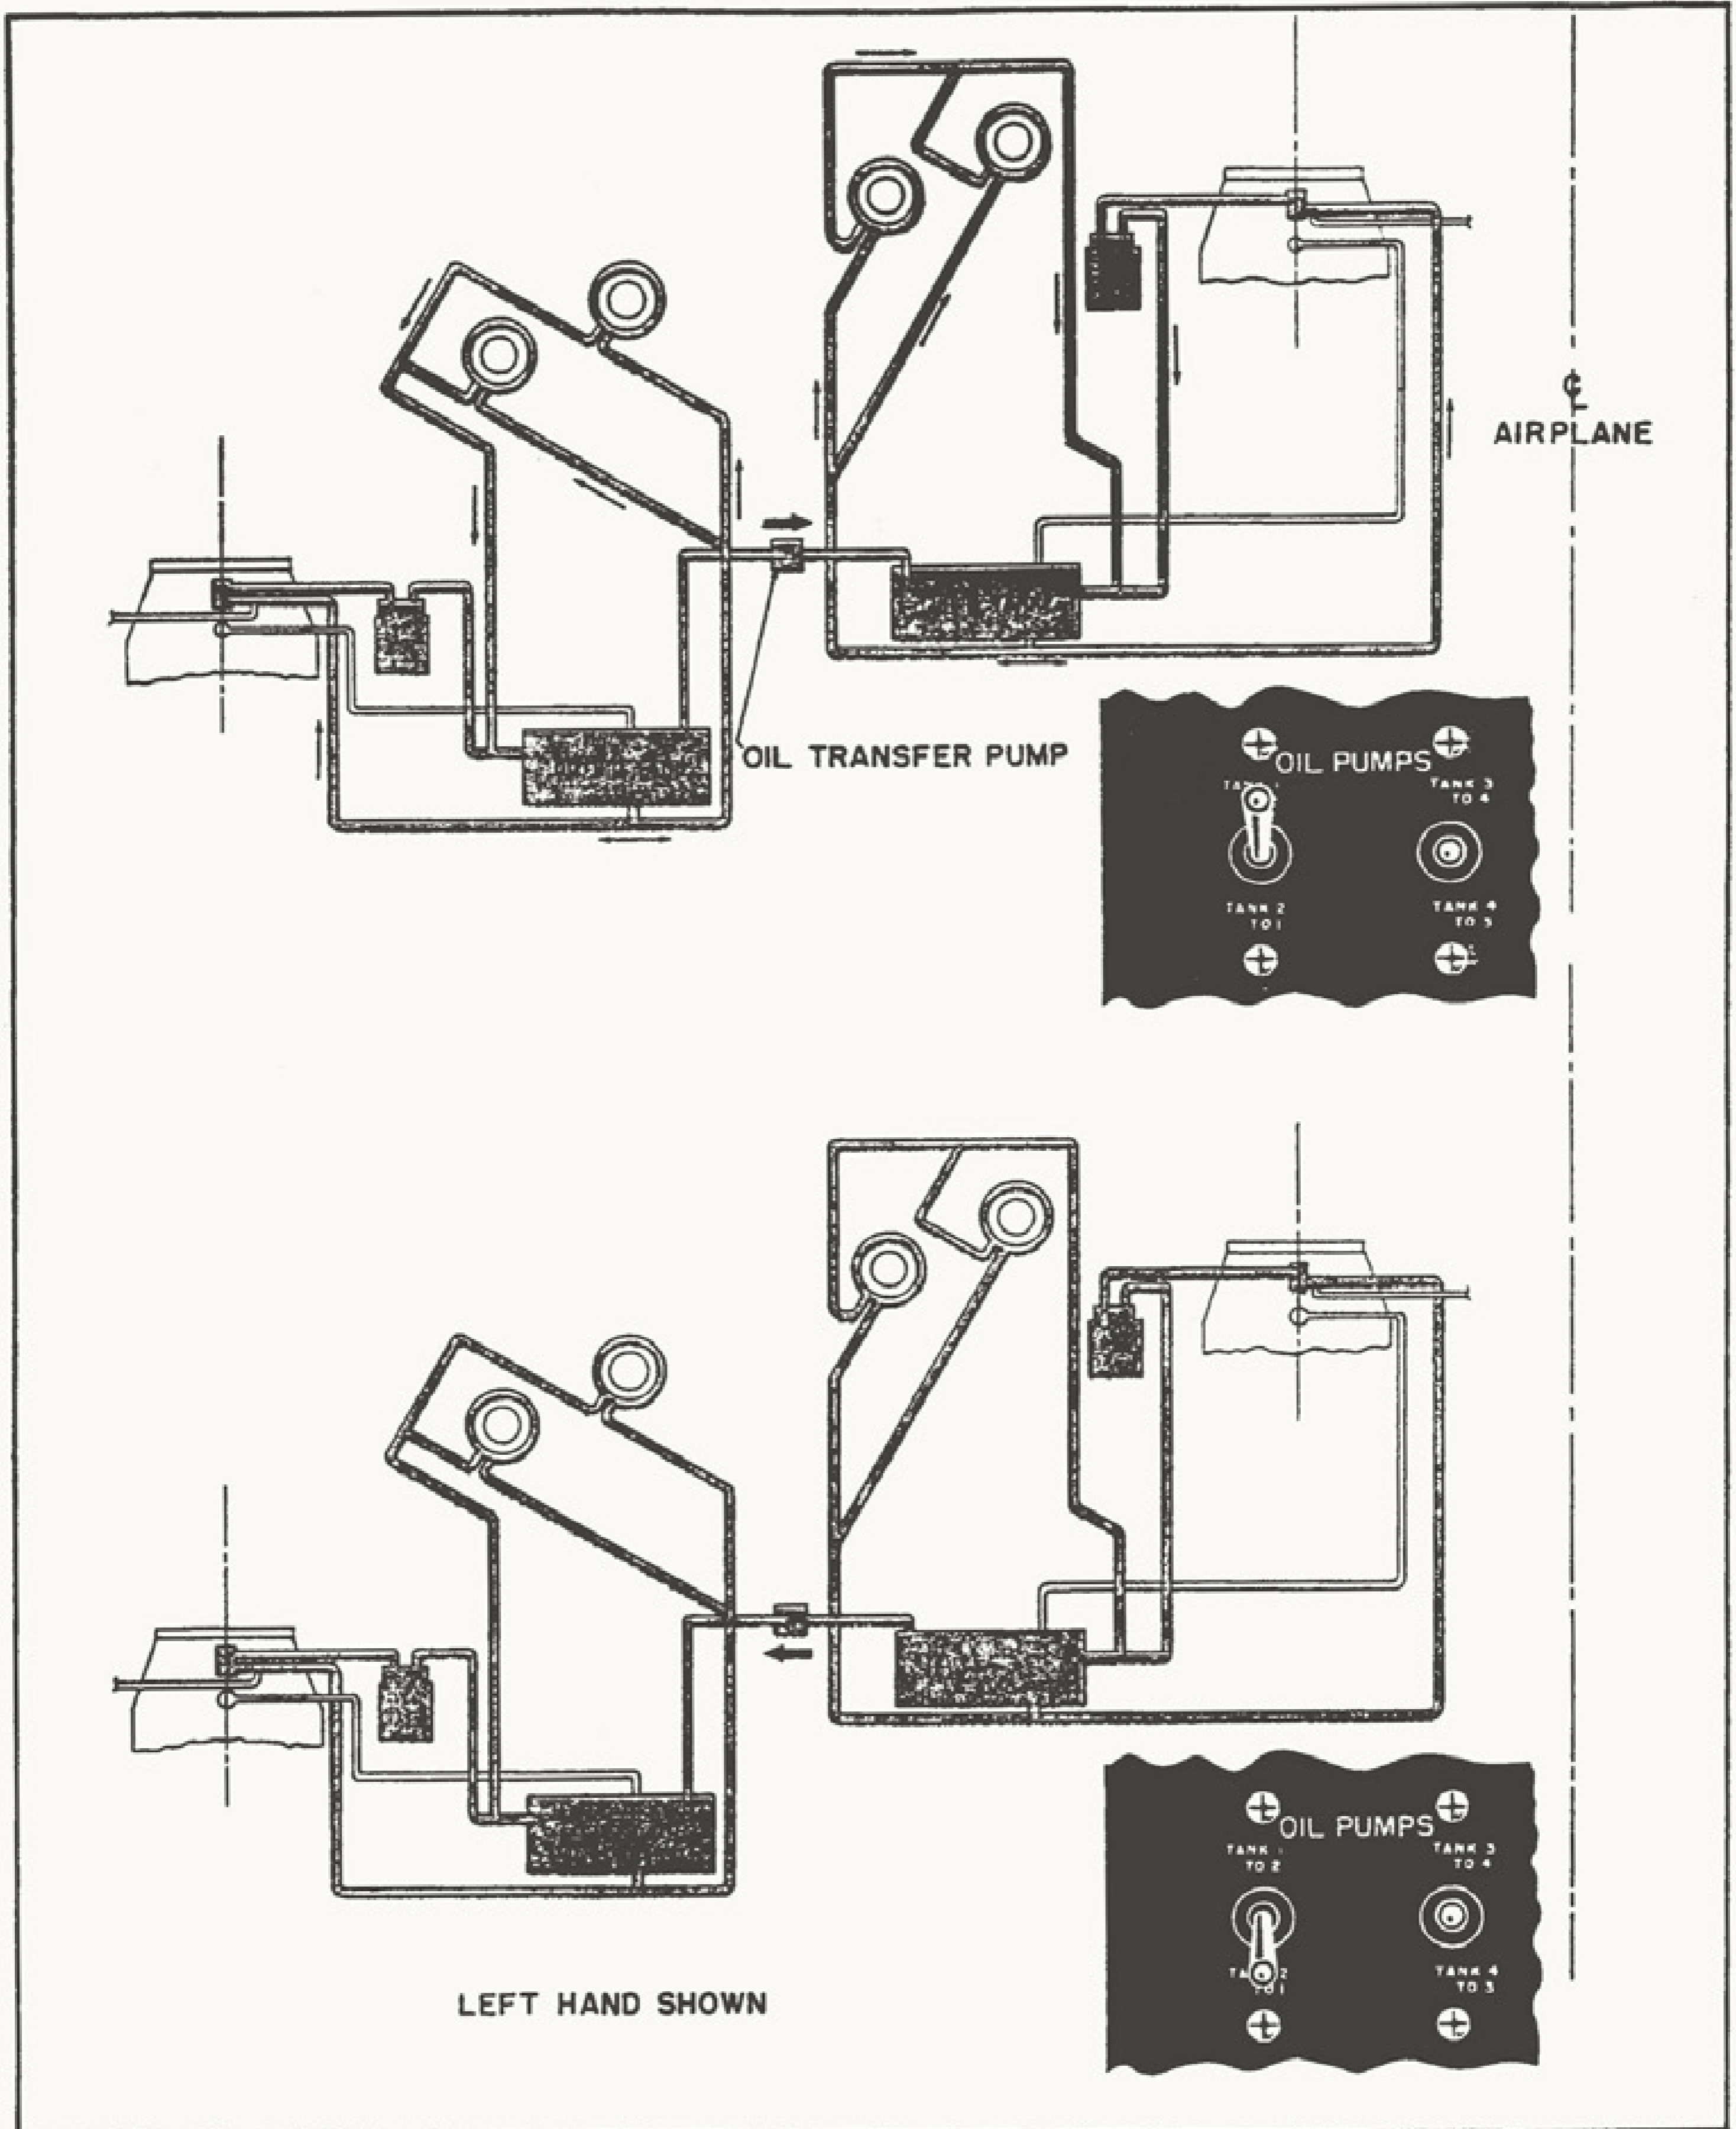

Figure 3. Oil System Management
6. OIL SYSTEM MANAGEMENT. (See figure 3.)- Oil may be transferred between the two engine oil tanks on the same side of the airplane. To transfer oil, hold the OIL PUMP switch to the desired position. (See Section I, figure 16.) Observe the quantity gages on the engineer's instrument panel. (See Section I, figure 18.)